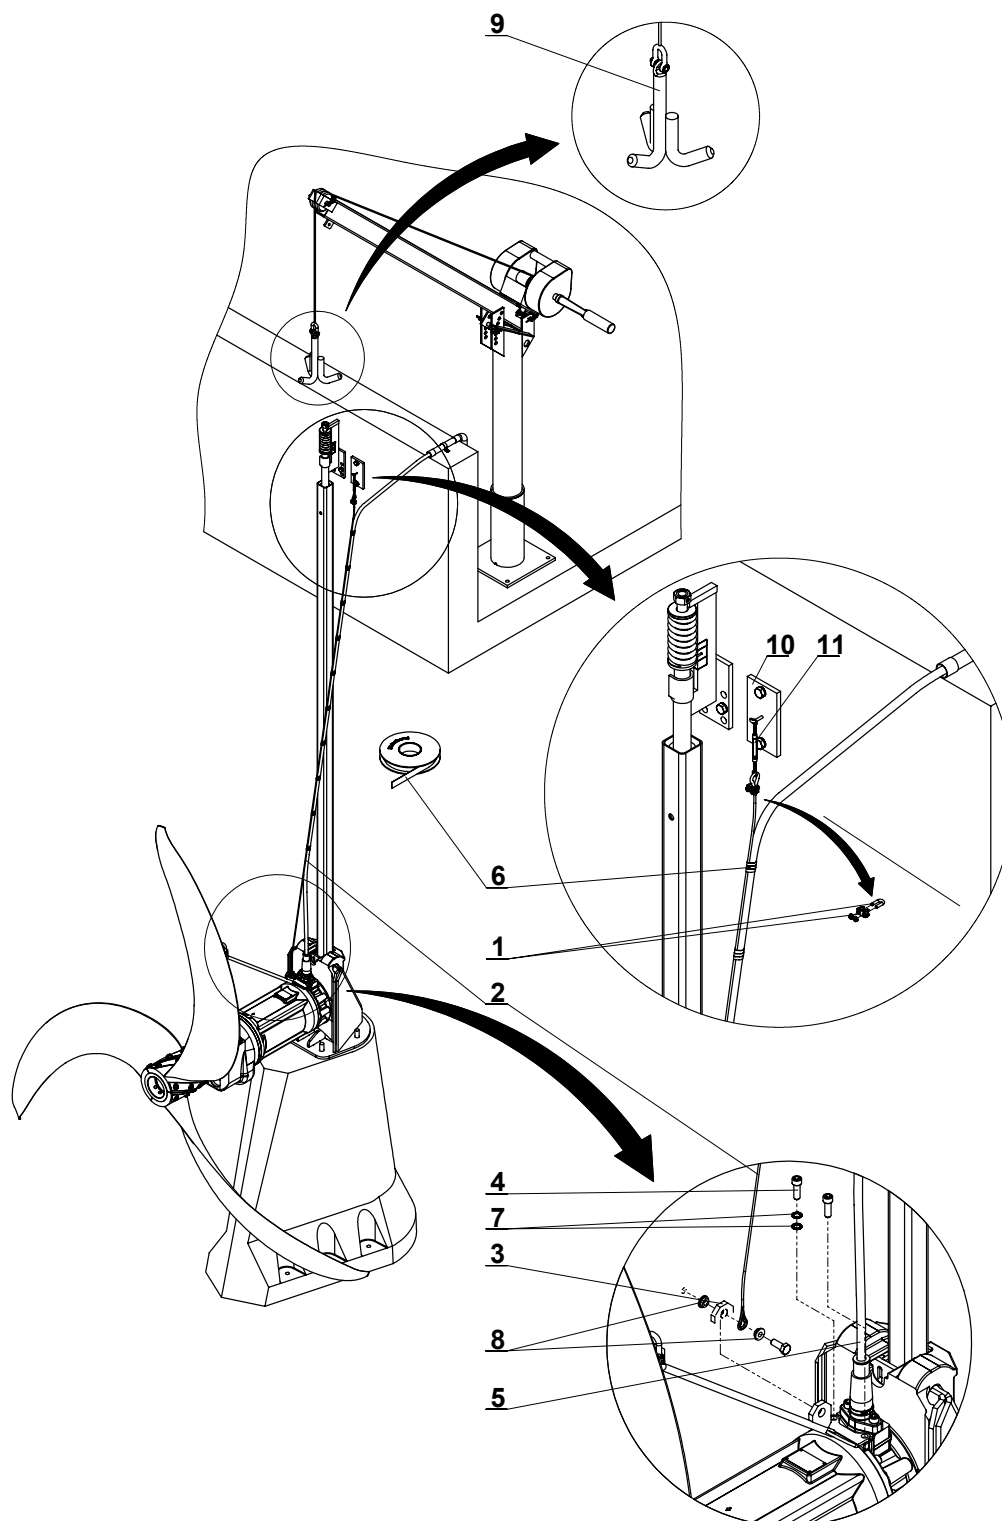

Figure 16 Fitting of cable tensioning device
- Finally fasten the motor power cable to the stainless steel cable using the special adhesive tape supplied (16/6) at intervals of **approx. 50 cm** as shown in Figure 16.